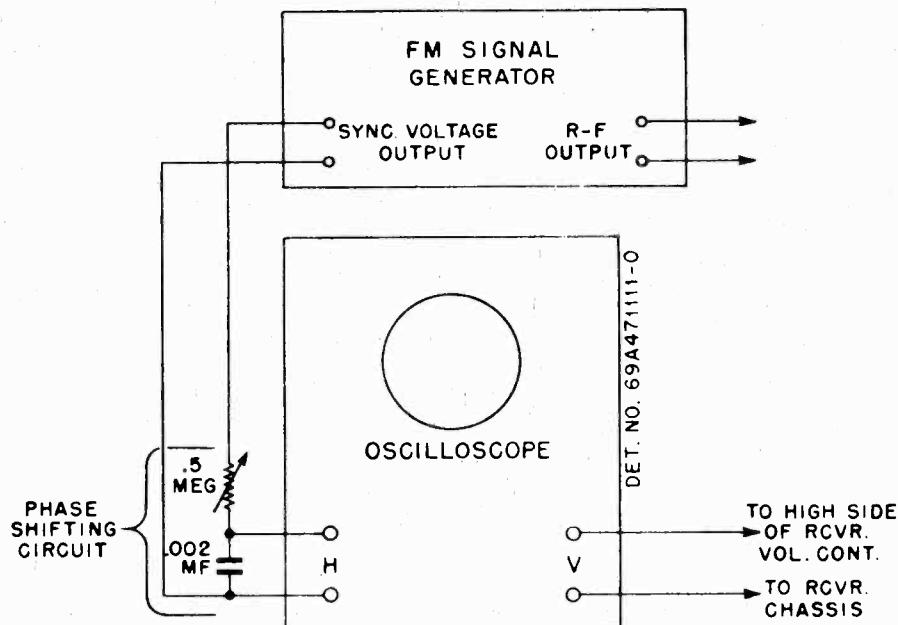

FIGURE 7. SIGNAL GENERATOR &amp; OSCILLOSCOPE HOOK-UP
2. Connect the FM generator synchronizing voltage output terminals to a phase shifting network, consisting of a variable 1/2 megohm resistor in series with a .002 mf capacitor. The input to the oscilloscope horizontal amplifier is connected across the .002 mf capacitor. See Figure 7. (This phase shifting network may not work with every oscilloscope. Different values of R & C may be required).
4. Screw discriminator secondary core (9) out as far as it will go.